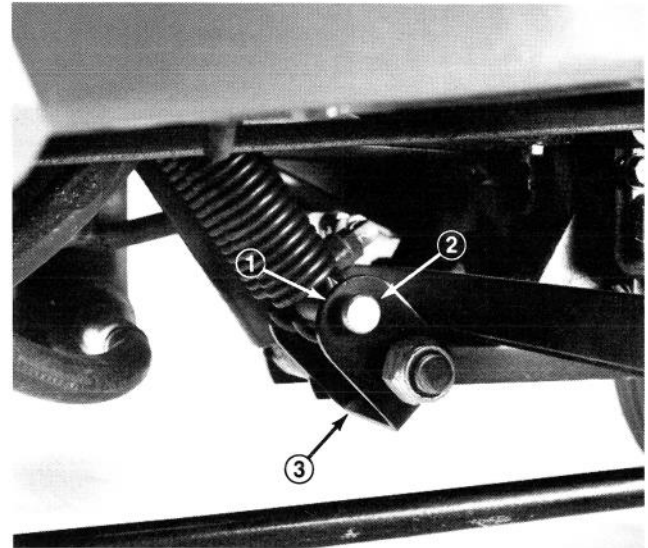

Figure 27
- Remove cotter pin and clevis pin securing bottom of springs to lift bracket (Fig. 27).